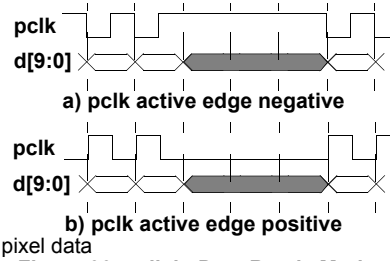

Figure 33. pclk in Data Ready Mode
- In data ready mode, (the *PixClkMode* bit of *DVBUSCONFIG1* register is set to a logic 1), the pixel clock output pin **pclk** will produce a pulse with a specified level every time valid pixel data appears on the digital video bus **d[9:0]** as shown in Figure 33.